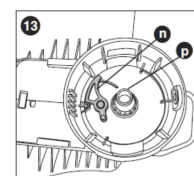

Figure 13
- If lever (n) (figure 13) in base of housing becomes dislodged, replace in correct position before inserting new 13 spool into housing.
- Take the new spool and push it onto the boss (p) (figure 13) in the housing. Rotate the spool slightly until it is seated.